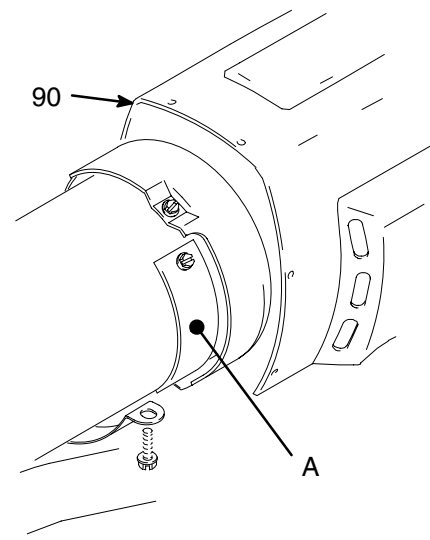

Fig. 4
4. Fig. 4. Remove motor shroud (90) and inspection covers (A).
3. Fig. 4. Remove motor shroud (90) and two inspection covers (A).
3. Fig. 4. Remove motor shield (90). Remove inspection covers (B) and gaskets on each side of motor.
15. Fig. 4. Install gaskets and inspection covers (B) on each side of motor. Install motor shield (90).